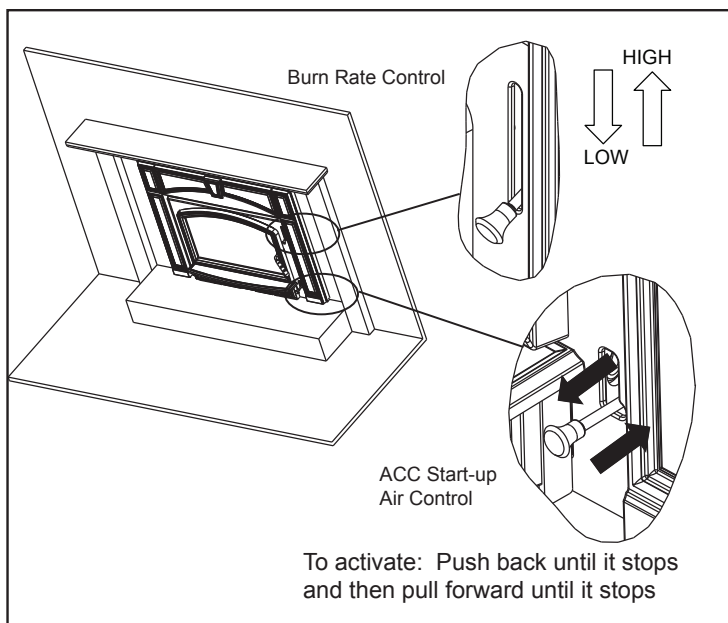

Figure 10.1 Start-up and Burn Rate Air Controls
Figure 10.1 on page 10.
- Push the Start-Up Air Control all the way back until it stops and then pull forward to the front of the appliance until it stops. **Figure 10.1.**
- The fire is now controlled by the air supplied by the Burn Rate Air Control. **Figure 10.1.**